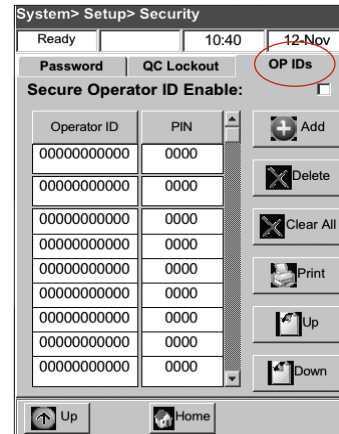

Figure H-22: System > Setup > Security screen
4. Tap the **Op IDs** tab (Figure H-22).